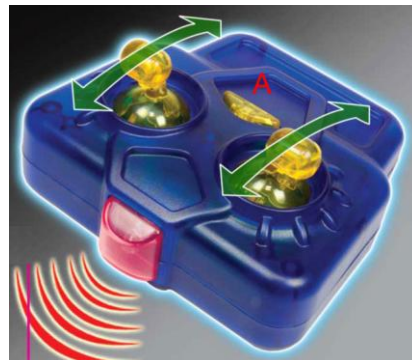

Fig. 16
14. Push the red power button on the robot and the triangle button (A) on the remote control to turn it on. Point the remote control towards the unit. Push both control sticks of the remote control forward or backward at the same time to move it in straight line. Move them in opposite directions to make a turn. (Fig. 16)